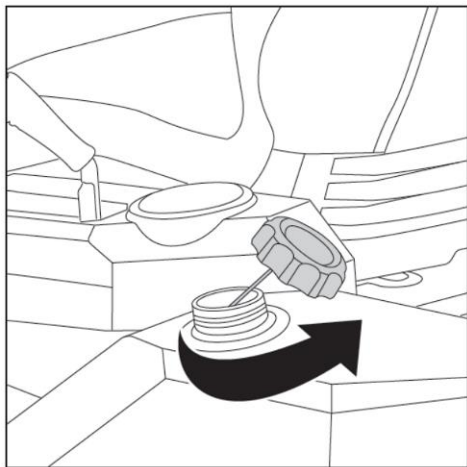

Fig.13
6. Ta bort tanklocket (Fig. 13)